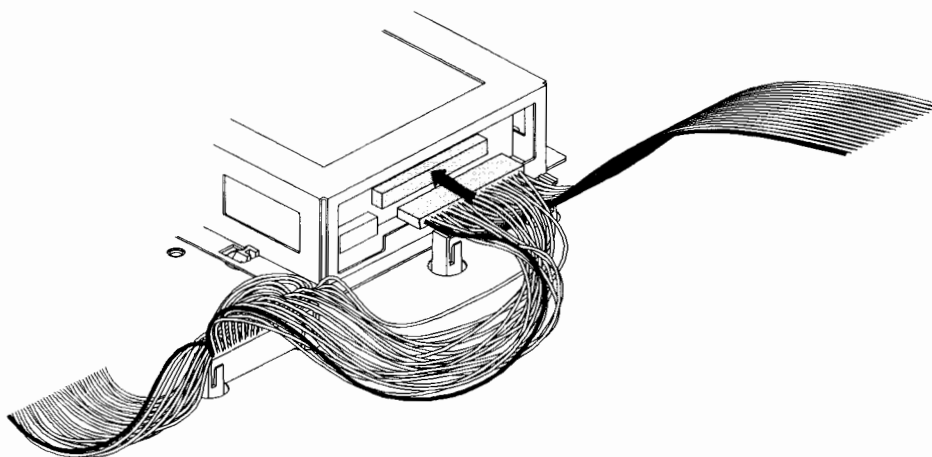

Figure B-21. Connecting the SCSI Ribbon Cable
8. Find the SCSI cable connector that is closest to the CD-ROM drive and remove it from its keeper. (See Figure B-21.)
9. Plug the SCSI cable connector into the SCSI connector on the CD-ROM drive as shown in Figure B-21.